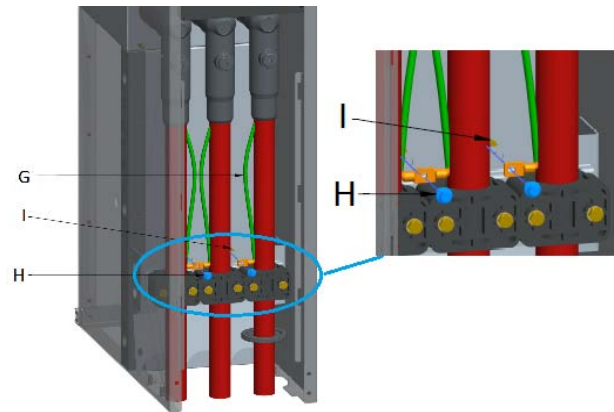

Figure 26: Assembly of the earthing cables
- Connect the three earthing cables (Figure 26 G) to the cable support using two self-securing hexagonal flange bolts (Figure 26 H) and two self-securing hexagonal flange nuts (Figure 26I). Torque M_A equals **40Nm**.